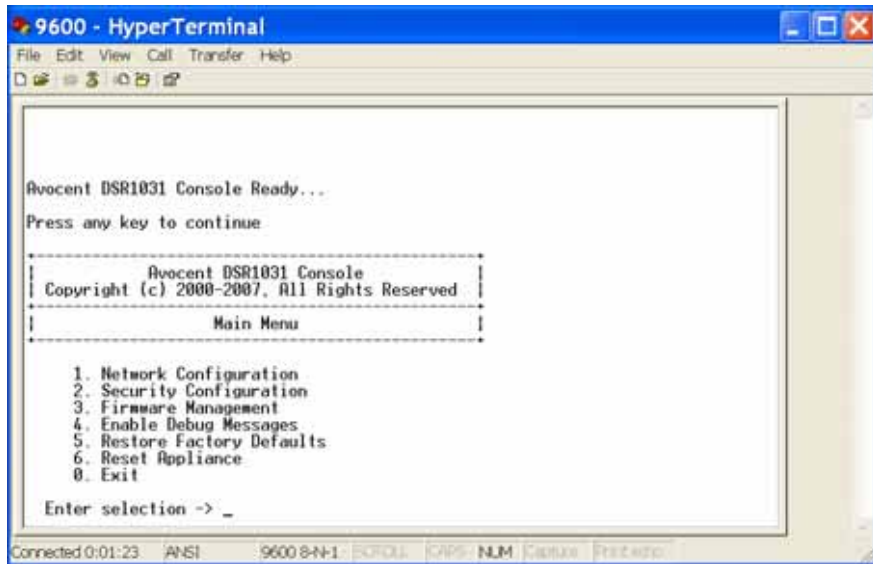

Figure 6.1: Console Main Menu
1. When you power up your DSR switch, the switch initializes for approximately one minute. After it completes initialization, press any key on the terminal or on the PC running the terminal emulation software to access the Console menu interface shown in Figure 6.1.